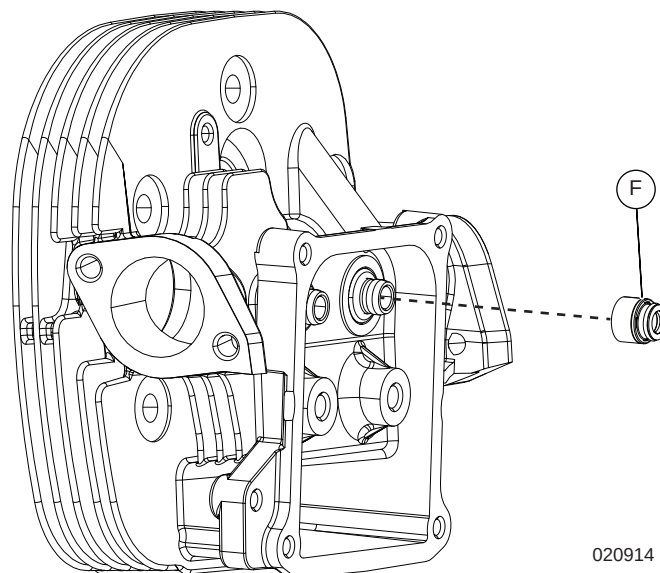

Figure 8-3. Install Valve Stem Seal
1. See Figure 8-3. Press valve stem seal (F) onto cylinder head intake and exhaust guide.